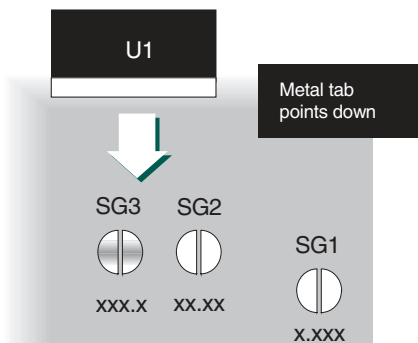

Figure2.InstallingU1
3. Battery Operation: Open SG4 and install U1 (LM7805CT) with its metal tab facing down as shown Figure 2. Allowable input power ranges (J1, pins 5 and 6) are as follows: